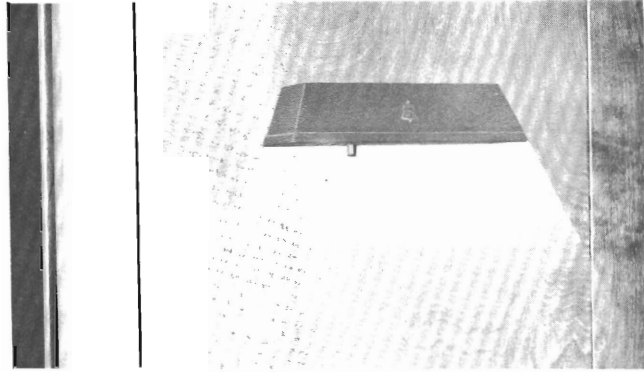

Fig. 4 — 2-type Light Fixture
6.02 The 2-type light fixture consists of a metal shade provided with a pull-chain lamp socket (Fig. 4).